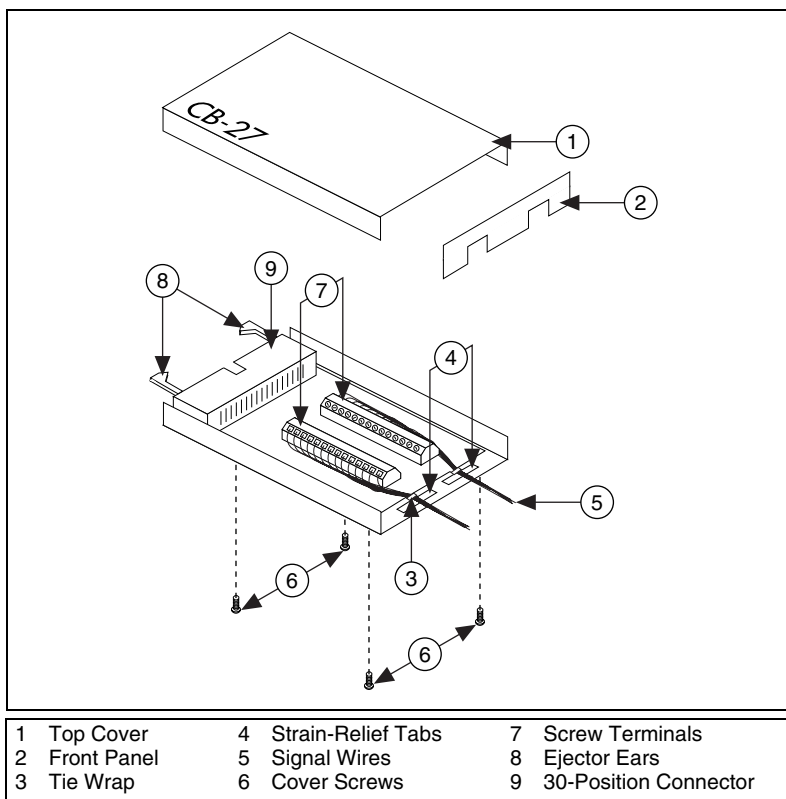

Figure 2. Connecting Signals to the CB-27
To connect the signals to the connector block, refer to Figure 2 as you complete the following steps:
2. Remove the screws from the bottom of the CB-27, as shown in Figure 2, to remove the top cover and the front panel.